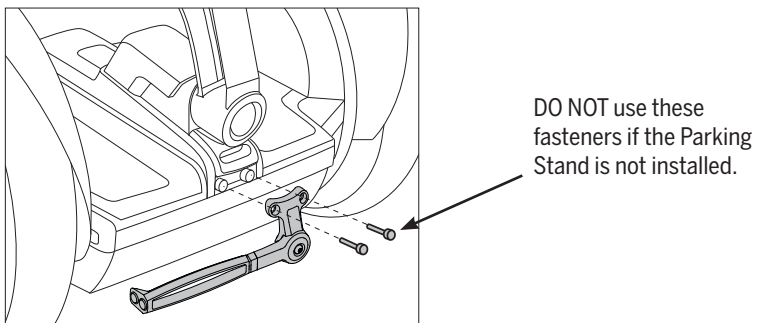

Figure 2. Attaching the Parking Stand
3. Place the Parking Stand over the Front Console Trim so the holes align. See **Figure 2**.
4. Attach the two fasteners provided with the kit through the Parking Stand and Front Console Trim. See **Figure 2**. Torque fasteners to **1.5 N-m (13 in-lbf)**.